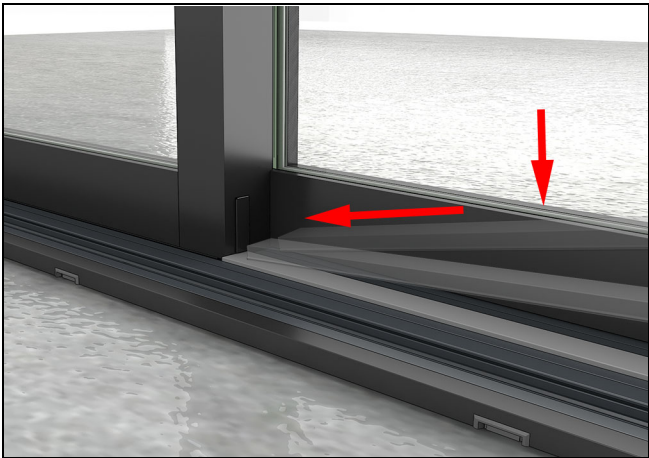
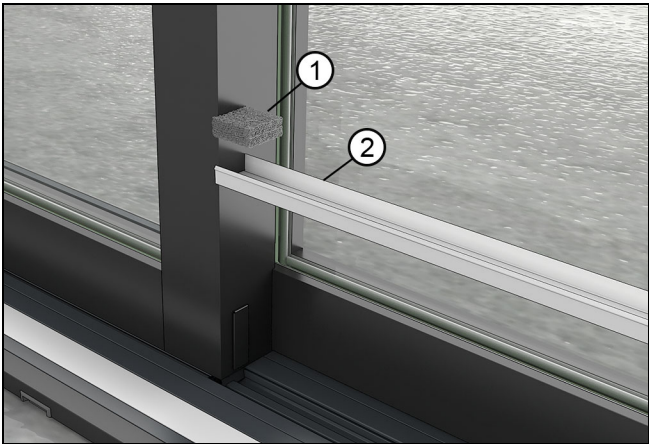
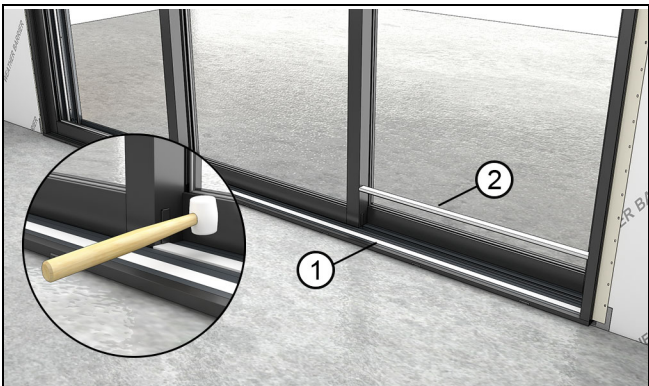

Figure 105
Figure 106
Figure 107
2. Start with the panels closed and locked. The sill covers fit between the pocket panel or secondary panels on the exterior and the jambs. Seat the cover with a rubber mallet. The cover will fit slightly under the stationary panel. See Figure 105, Figure 106 and Figure 107.